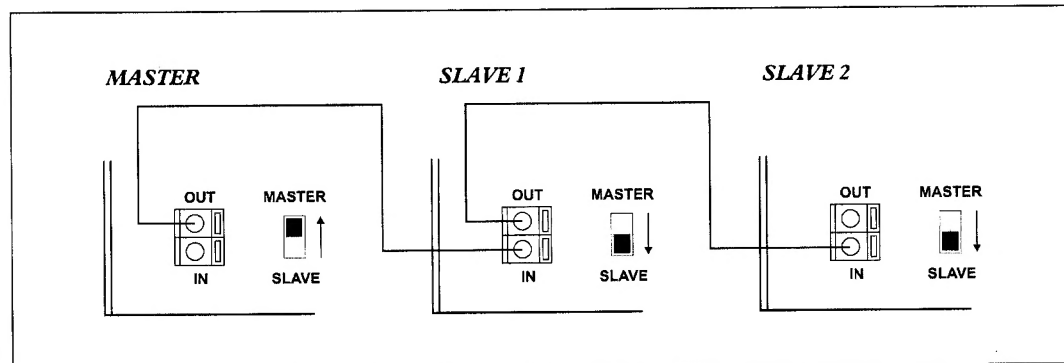

FIG. 6.3
2. Switch the master/slave switch, FIG. 6.3 , on all the slave units from "MASTER" to "SLAVE" position.
3. Hook-up the IN/OUT terminals for MASTER/SLAVE operation as shown in FIG. 6.3.